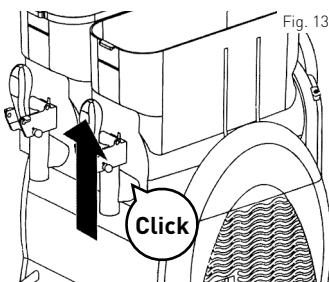

Fig. 13
- To remove the bowl lid (1) of the bowl (2) first, follow these instructions & see Fig.13:
- 2] Extract the bowl lid (1) from the retainer placed at the front side.